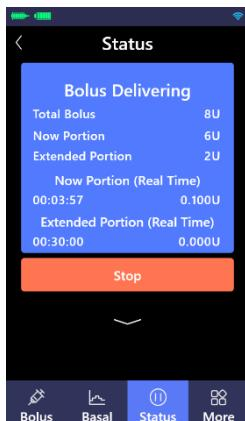

Figure A.13.6
(3) After the now portion and extended time settings are completed. Click "Start", the insulin pump controller will send a delivery instruction to the insulin pump and the pump will start delivery. The interface will display the progress of the extended bolus delivery (as shown in Figure A.13.6).
(4) During the extended bolus delivery, if you find that the setting is wrong or the meal is interrupted or the food of the meal changes, you need to stop the ongoing extended bolus delivery.
Click "Stop" in the status interface (as shown in Figure A.13.6), then click "ACT" in the pop-up confirmation interface to stop the delivery, or click "ESC" to continue the delivery.